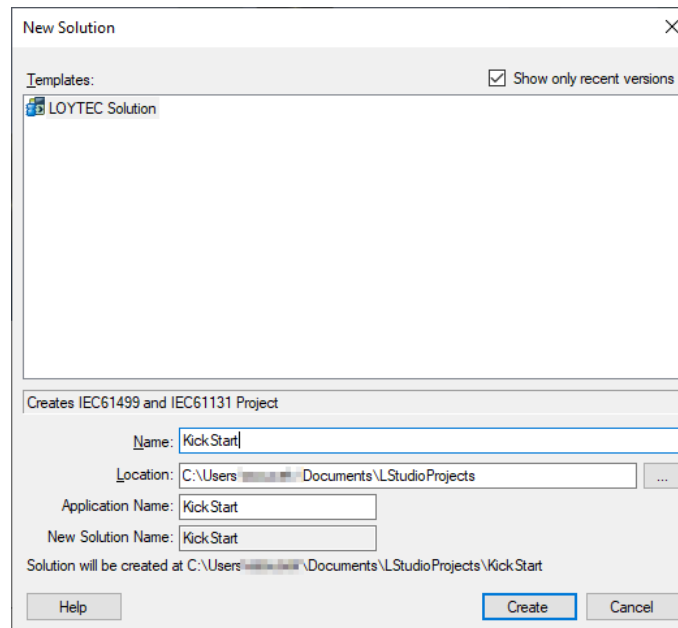

Figure 42: Create a new L-STUDIO solution
2. Create a new solution in menu **File** → **New** → **Solution...** and enter a name as shown in Figure 42.